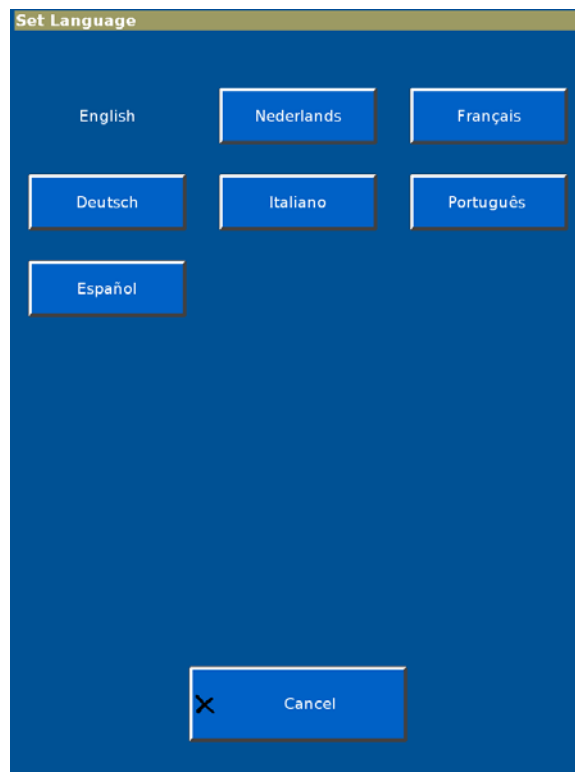

Figure 5-3: Set Language Screen
2. Touch the language button on the Set Language screen (Figure 5-3).